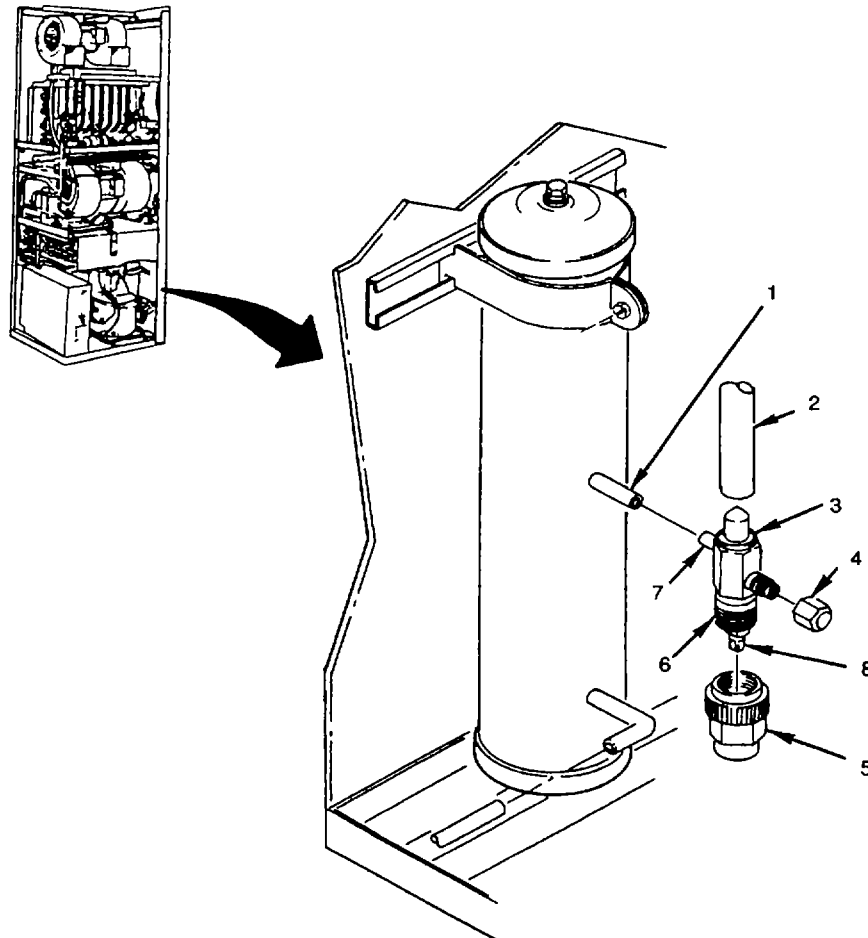

Figure 5-18. Receiver Service Valve (V2).
- (1) Disconnect air conditioner input power at source; and
- (2) Remove compressor section panel (paragraph 4.24).
- a. Check for evidence of leaks, kinked or damaged lines, and loose or missing mounting hardware (see fig. 5-18).
- c. Debraze tubing (1) and (2) at joints (3) and (7) (paragraph 5.12)
- d. Remove receiver service valve (6).
- a. Remove valve caps (4) and (5).
- b. Place receiver service valve (6) in mounting position.
- c. Braze tubing (1) and (2) at joints (3) and (7) (paragraph 5.12)